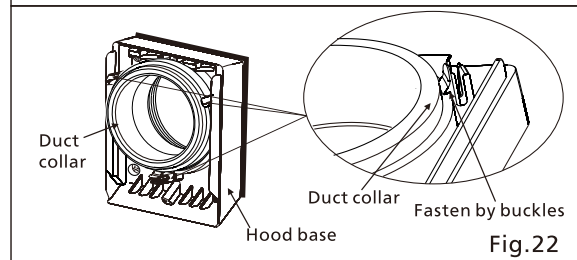

Fig.22
- Press duct collar and flexible duct until duct collar fits into hood base completely.(Fig. 22)